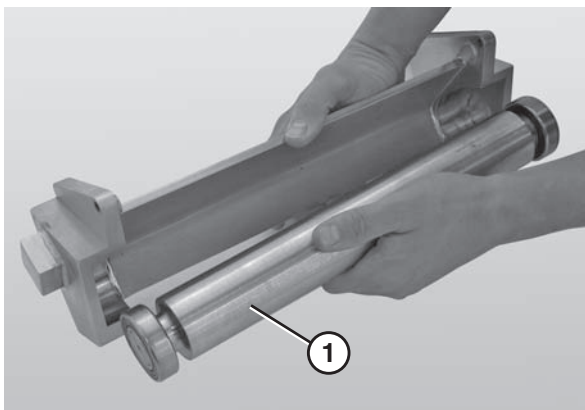

Figure 84
6. Remove the nose bar return spindle (**Figure 84, item 1**).